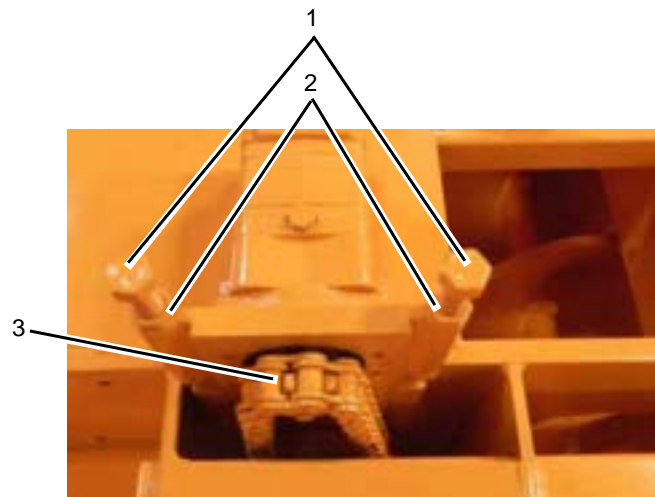

Figure 5-7. Conveyor Drive Chain Bolts
2. Open engine access door on the side adjusting to locate the conveyor drive chain bolts. (**Figure 5-7**)